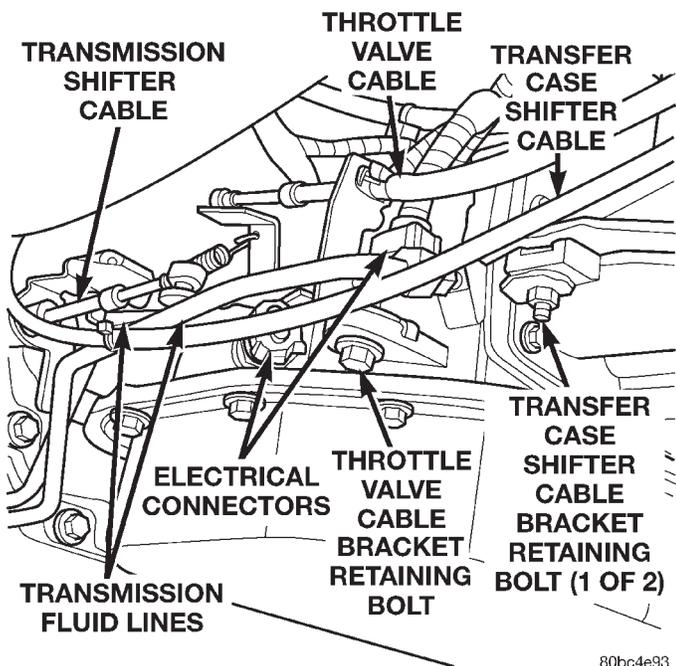

Fig. 24 Transmission Control Cables & Fluid Lines
(12) Install the transmission fluid cooler lines on the transmission (Fig. 24). Torque the nuts to 18 N·m (13 ft. lbs.).
(13) Install the shifter cable bracket and retaining bolt (Fig. 24).
(14) Connect the shifter cable (Fig. 24).
(15) Install the spring on the shift lever arm (Fig. 24).
(16) Install the throttle valve cable bracket and retaining fasteners (Fig. 24).
(17) Connect the throttle valve cable (Fig. 24).
(18) Install the transfer case shift cable bracket on the transmission housing (Fig. 24).